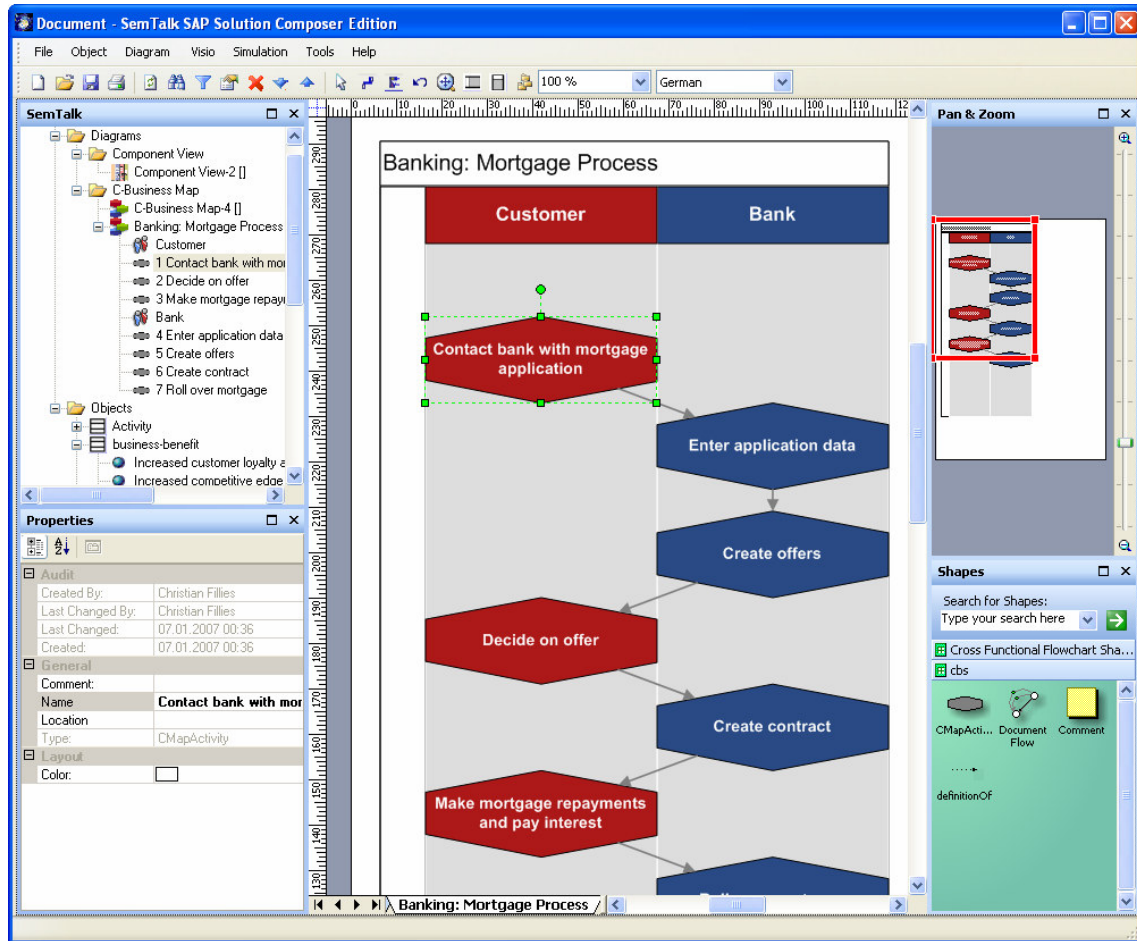

Figure 43: SAP Solution Composer (1)
| Figure 43: SAP Solution Composer (1)..... | 47 |